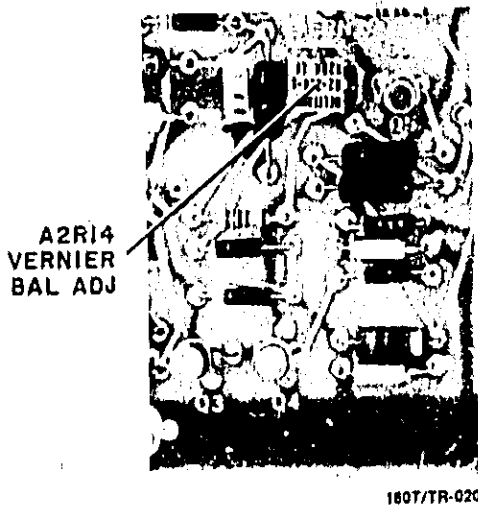

Figure 5-15. Vernier Balance Adjustment Location
- e. Adjust Vern Bal Adj, A2R14, to recenter spot (see figure 5-15).